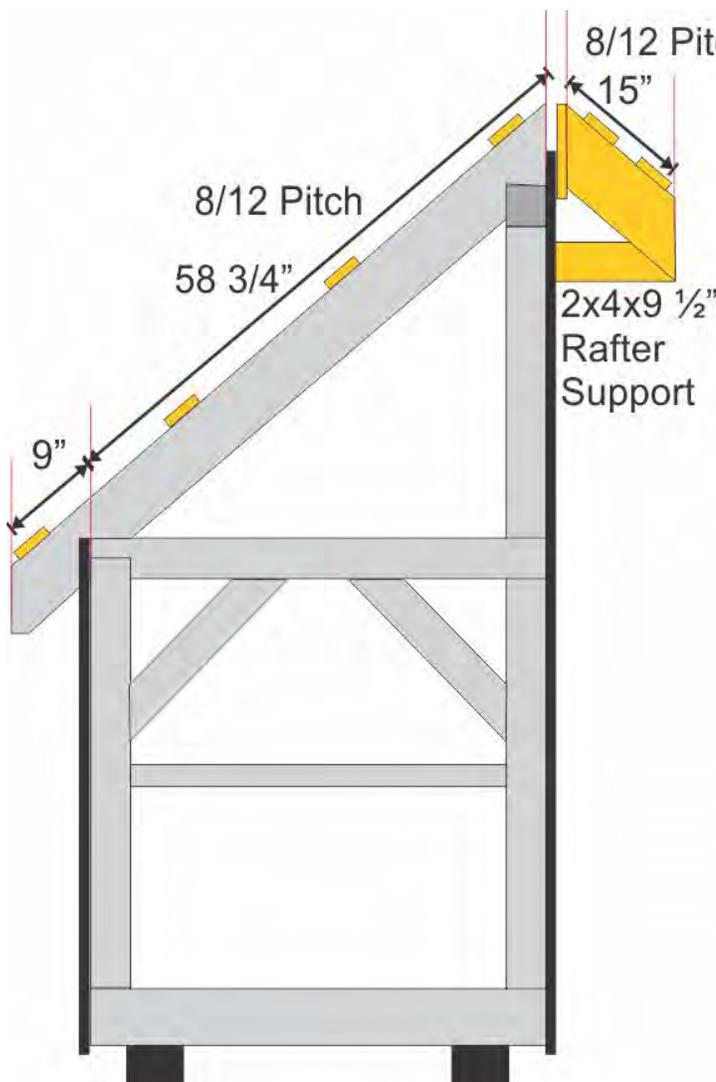
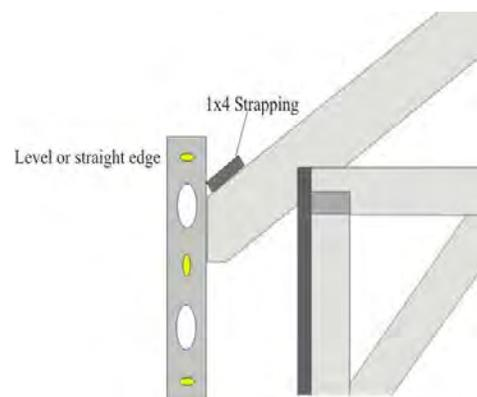

Figure 2
Figure 3
**Step 8.** Install 1x4 roof strapping approximately 20" on center. \*IMPORTANT Hold top course down 2" from ridge to allow nailing for ridge cap. Figure 2. Use two 6d nails at each rafter. When placing the last piece of strapping, place a level or straight edge against the rafters to be sure that the strapping does not hang below the rafter edge. Figure 3.